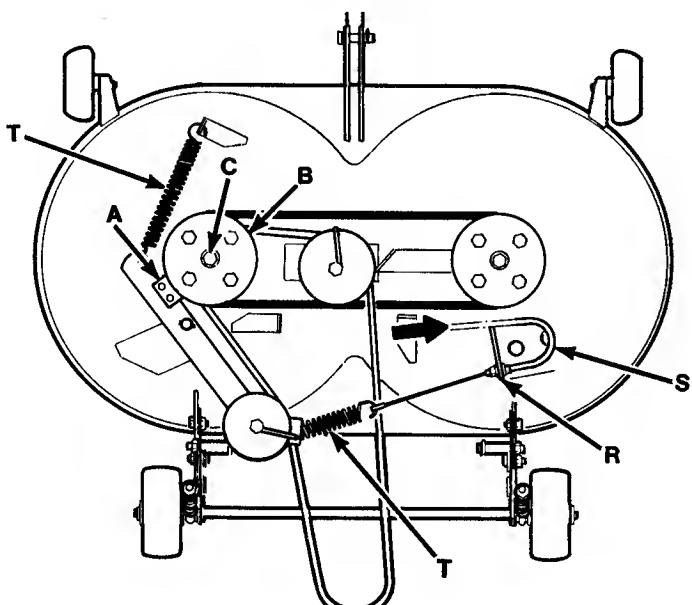

Fig. 47
2. If brake pad (A, Fig. 47) does not squarely contact both top and bottom surfaces of pulley (B), re-position pulley (B) as follows:
3. Adjust cable (S, Figs. 48 & 49) at nuts (R, Fig. 47 & 48) so there is a slight slack in spring (T, Fig. 47). **WHEN ADJUSTED, SPRING (T) SHOULD NOT BE UNDER TENSION**
4. If blade still does not stop within 5 seconds after the mower drive has been disengaged, replace brake pad (A, Fig. 47).